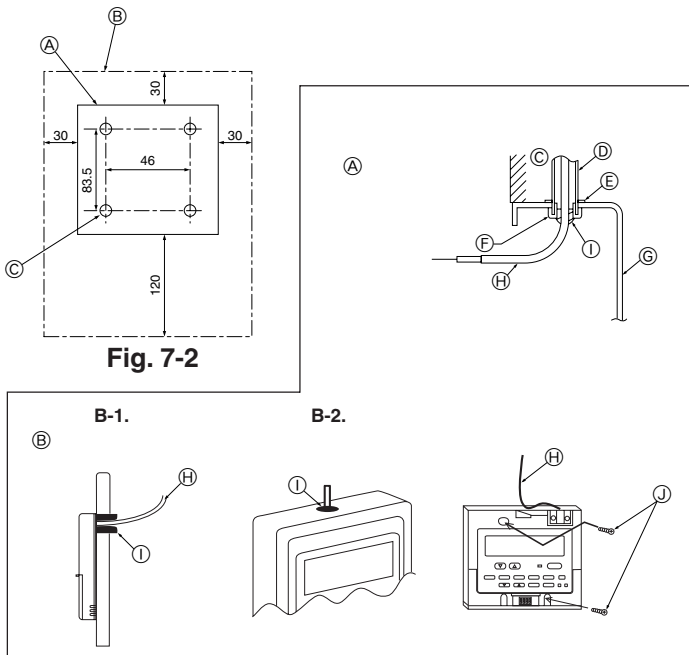

Fig. 7-2
(1) Select an installing position for the remote controller. (Fig. 7-2)